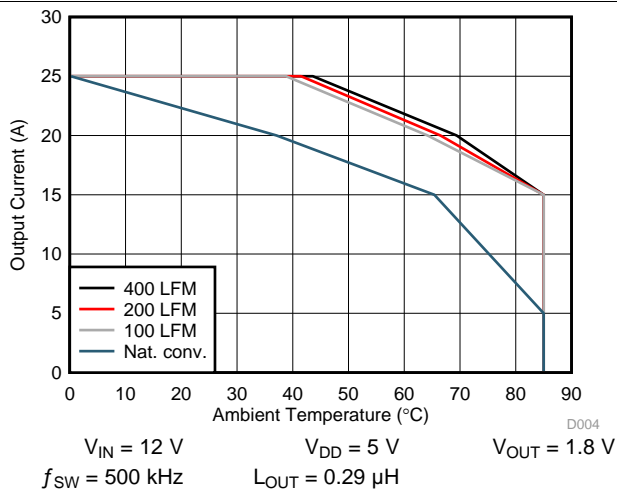
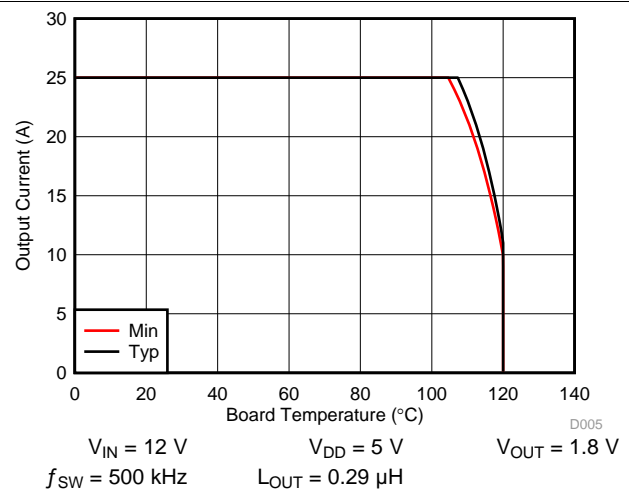

Figure 6. Safe Operating Area – PCB Horizontal Mount ⁽¹⁾
Figure 7. Typical Safe Operating Area ⁽¹⁾
The SOA curves in the CSD97395Q4M datasheet give engineers guidance on the temperature boundaries within an operating system by incorporating the thermal resistance and system power loss. Figure 6 and Figure 7 outline the temperature and airflow conditions required for a given load current. The area under the curve dictates the safe operating area. All the curves are based on measurements made on a PCB design with dimensions of 4.0 inches (W) × 3.5 inches (L) × 0.062 inch (T) and 6 copper layers of 1 oz. copper thickness.